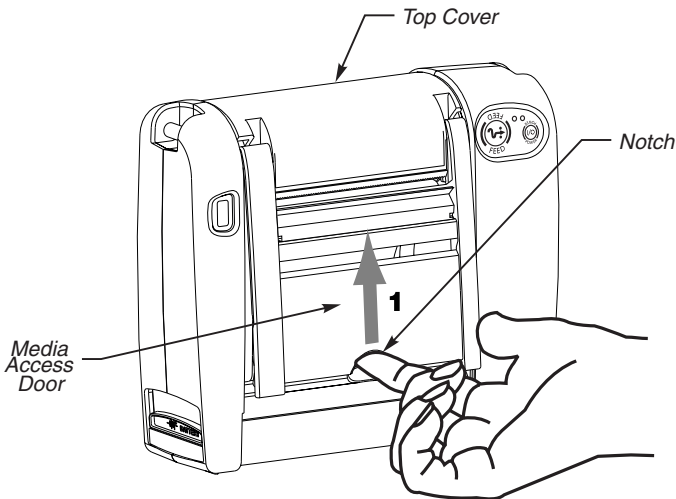

FIG. 4
1. Refer to Figure 4. Raise the media access door by lifting at the notch until it unhooks from the top cover.
1. Raise the media access door by lifting at the notch until it un-hooks from the top cover (refer to Figure 4).